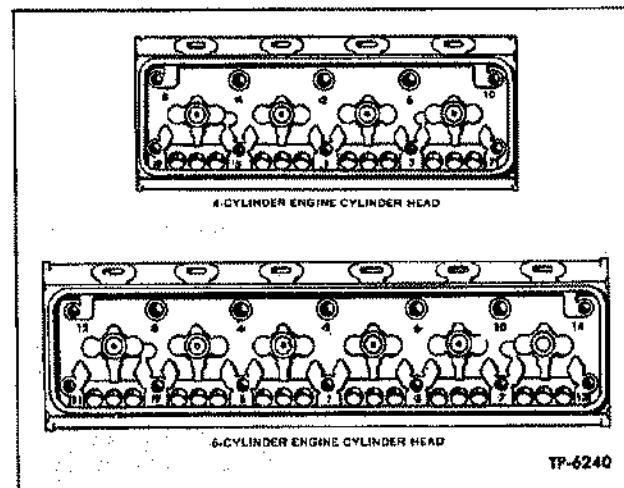

Figure 87—Head Stud Nut Tightening Sequence
2. Loosen cap screws that attach lifting brackets to cylinder head so bracket is loose. Coat cylinder head studs with Hypoid lubricant, then install and tighten cylinder head stud nut to recommended torque, in the sequence shown in figure 87. Tightening of stud nuts will be simplified by the use of special wrench in conjunction with torque wrench.